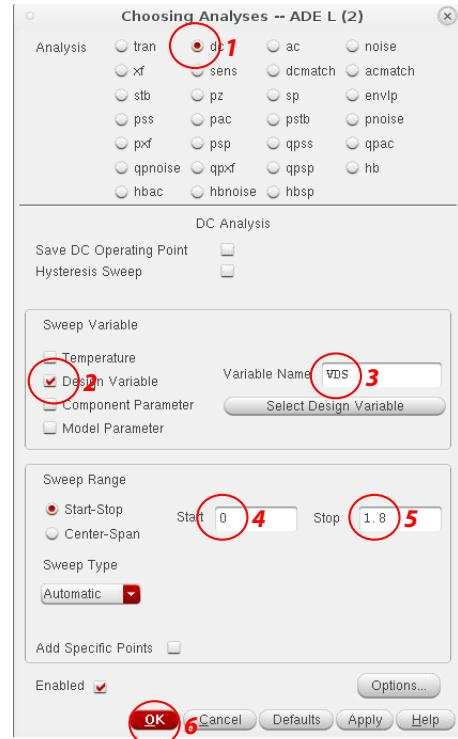

Figure 11: DC sweep analysis.
3. Specify which kind of simulation you want to run. In this case, we are doing a DC simulation (*Analyses -> Choose... -> dc*) and we want to draw an I-V curve so we need to sweep the drain voltage from 0 to 1.8V. To do so, you need to select the *designvariable* option, choose the variable name as *VDS* and sweep if from 0 to 1.8V, as illustrated in Fig. 11.